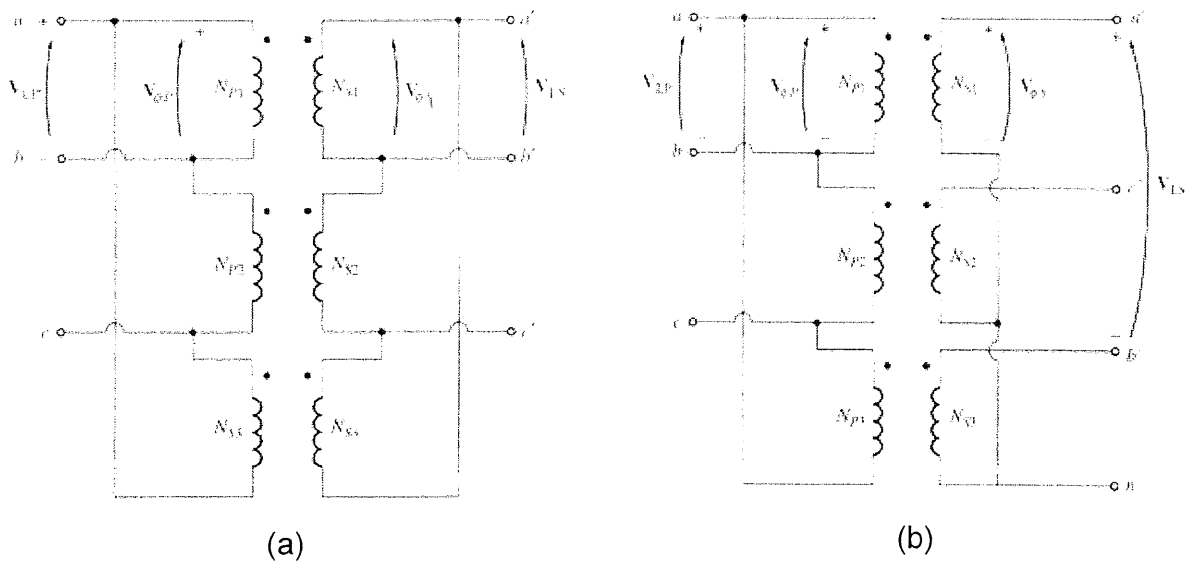

Figure 2
c) Name the three-phase transformer connections shown in Figure 2 (a) and Figure 2 (b).